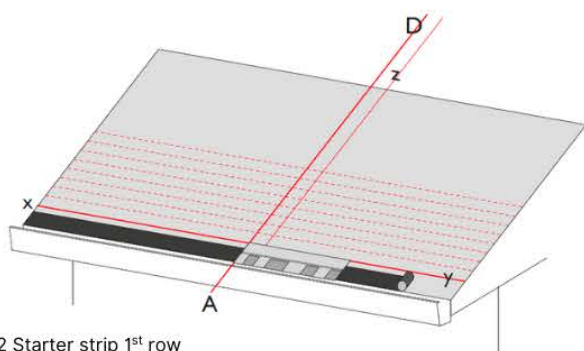

Fig. 2 Starter strip 1st row
- Apply starter strip along the roof eaves (Refer Fig. 2).
- Install the first course of Master shingles from the line AD (Refer Fig.2).